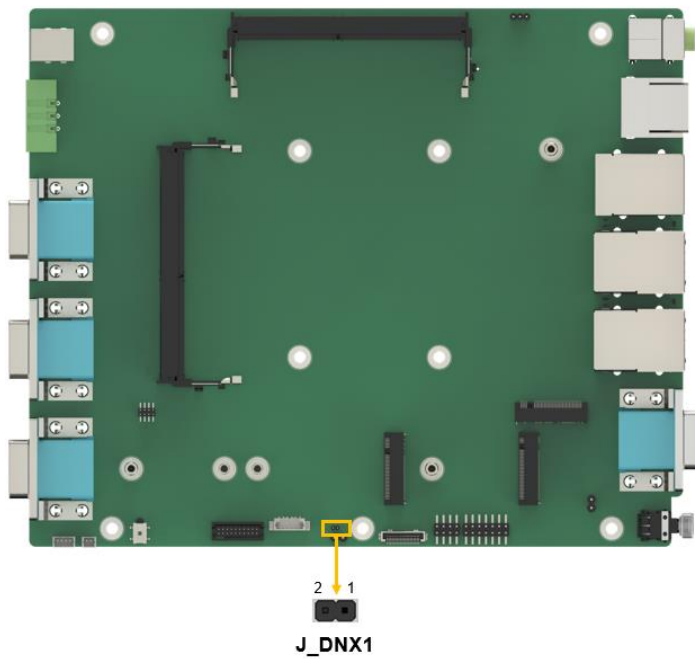

Figure 4-6: DNX Mode Setting Jumper Location
- CN Location:** See **Figure 4-6**